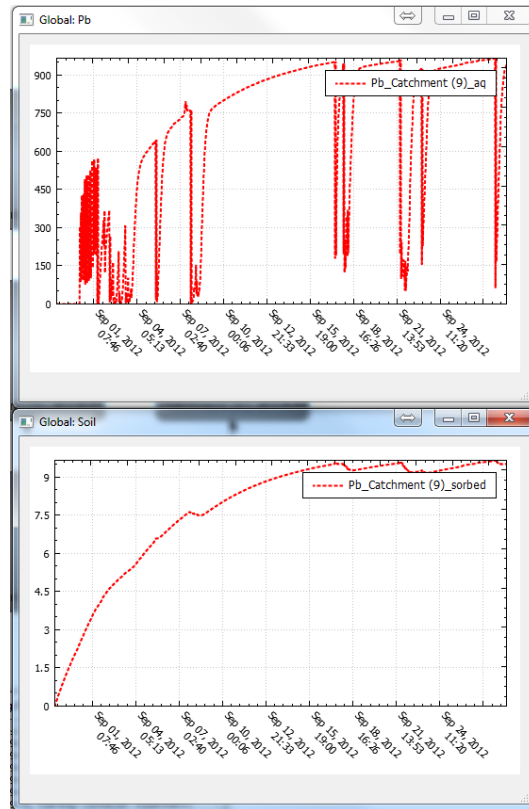

Figure 6: Aqueous phase (top) and surface-bound (bottom) Pb in **Catchment (9)** block
12. Right-click on one of the blocks to see the concentration of Pb in the runoff and the sorbed Pb concentrations. The results should look like Figure 6.